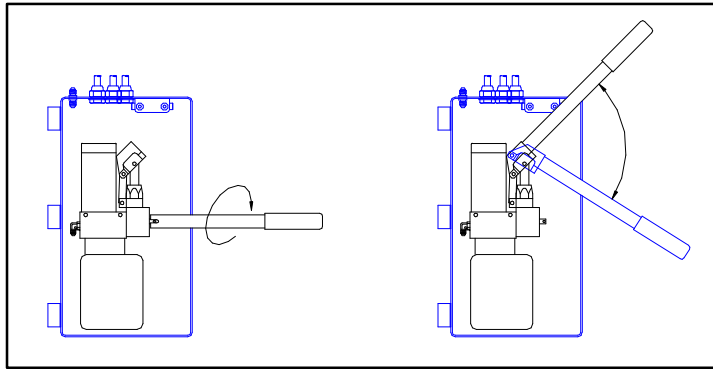

FIGURE 2-10: LIFT OPERATION – PLATFORM MANUAL RAISING
- Refer to **Figure 2-10**. Insert the pump handle extension onto manual backup pump release valve. Make sure the notches at the end of the handle are fully engaged by the release valve pin. Twist the handle **CLOCKWISE** until lightly-snug and remove.